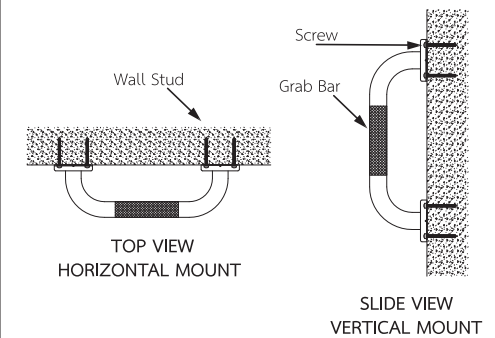

Fig. 4
12. Test if the grab bar is installed firmly. (fig 4)